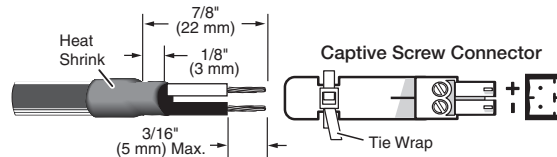

Figure 9. Wiring the Power Connector for the USB Extender Plus, Rack Mountable Models
- **Rack mountable models** — The USB Extender Plus standard and HID Only models are provided with power supplies to which 2-pole captive screw plugs are wired. Plug these connectors into the rear panel captive screw connectors of the transmitter and receiver. If it is necessary to wire a power supply to its connector, see figure 9.